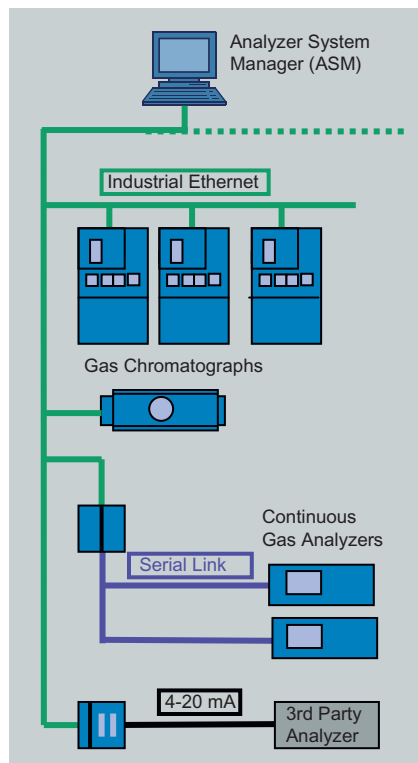

Fig. 15: Communication technologies
- To allow direct access to the analyzers or systems from a maintenance station to ensure correct and reliable operation including preventive or predictive maintenance (fig.15).